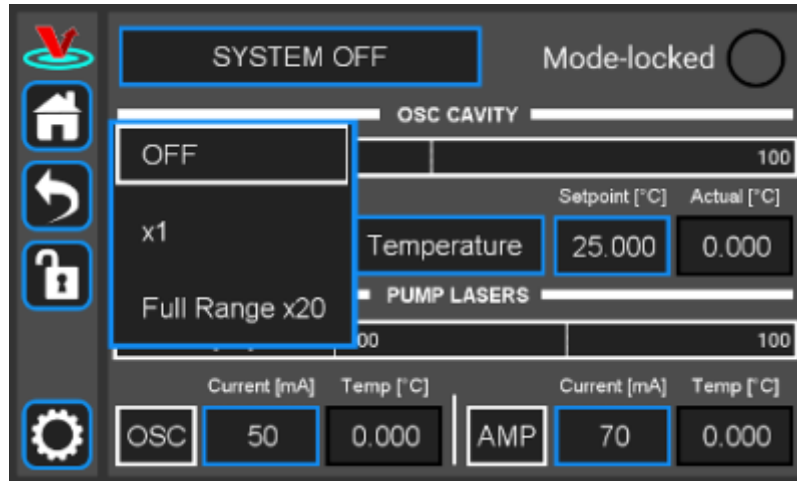

Fig. 9: Select PZT Gain
5. Touch the “PZT” touch screen button (figure 9) to bring up a drop-down menu and select “Full Range x20” to enable the PZT servo.